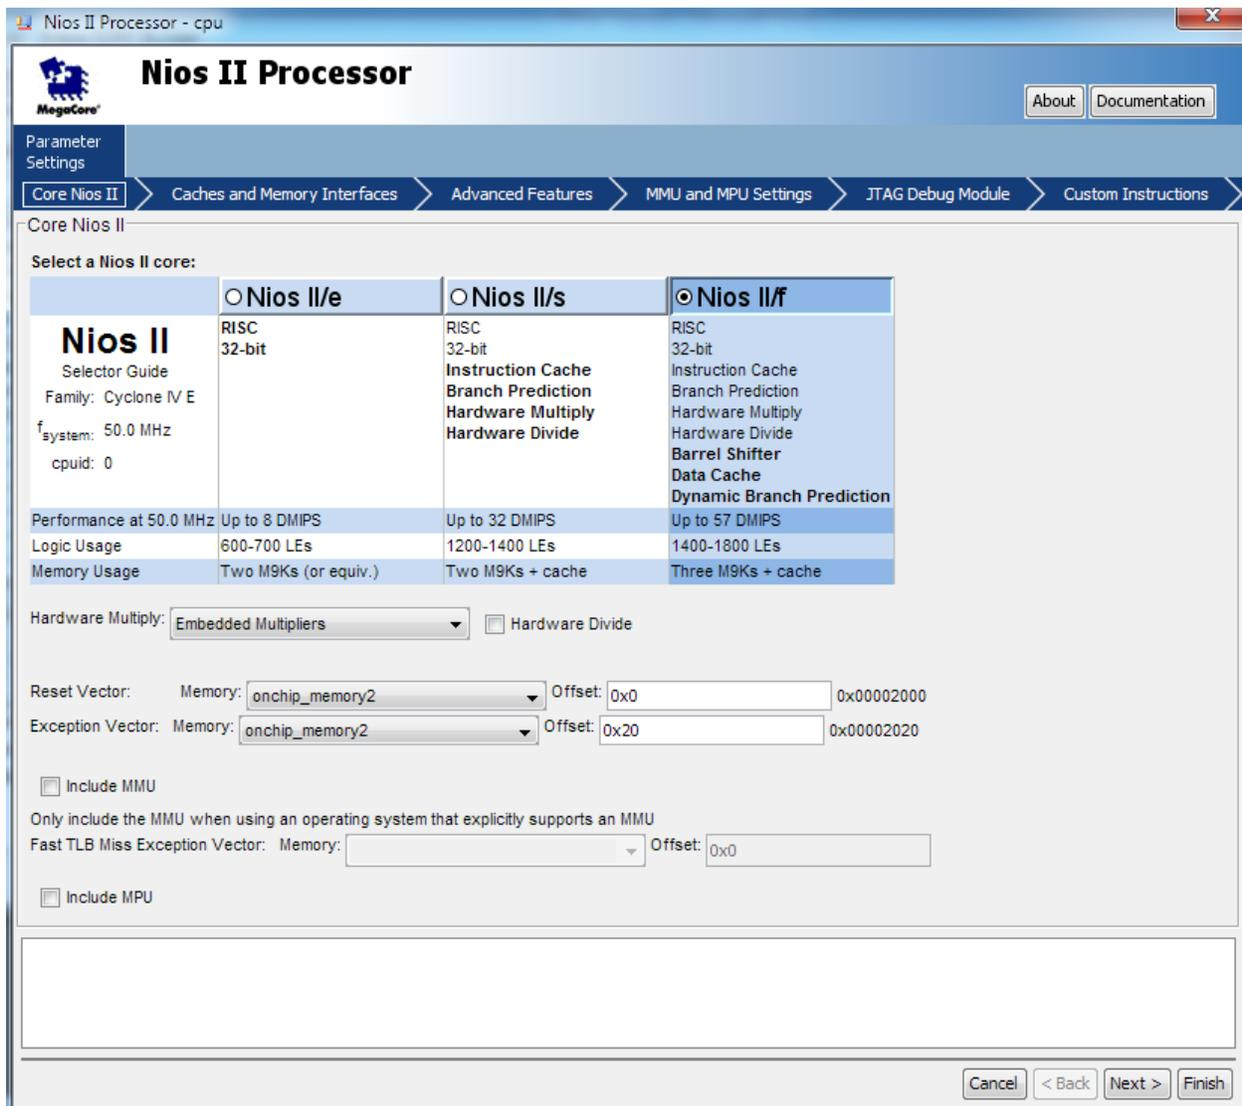
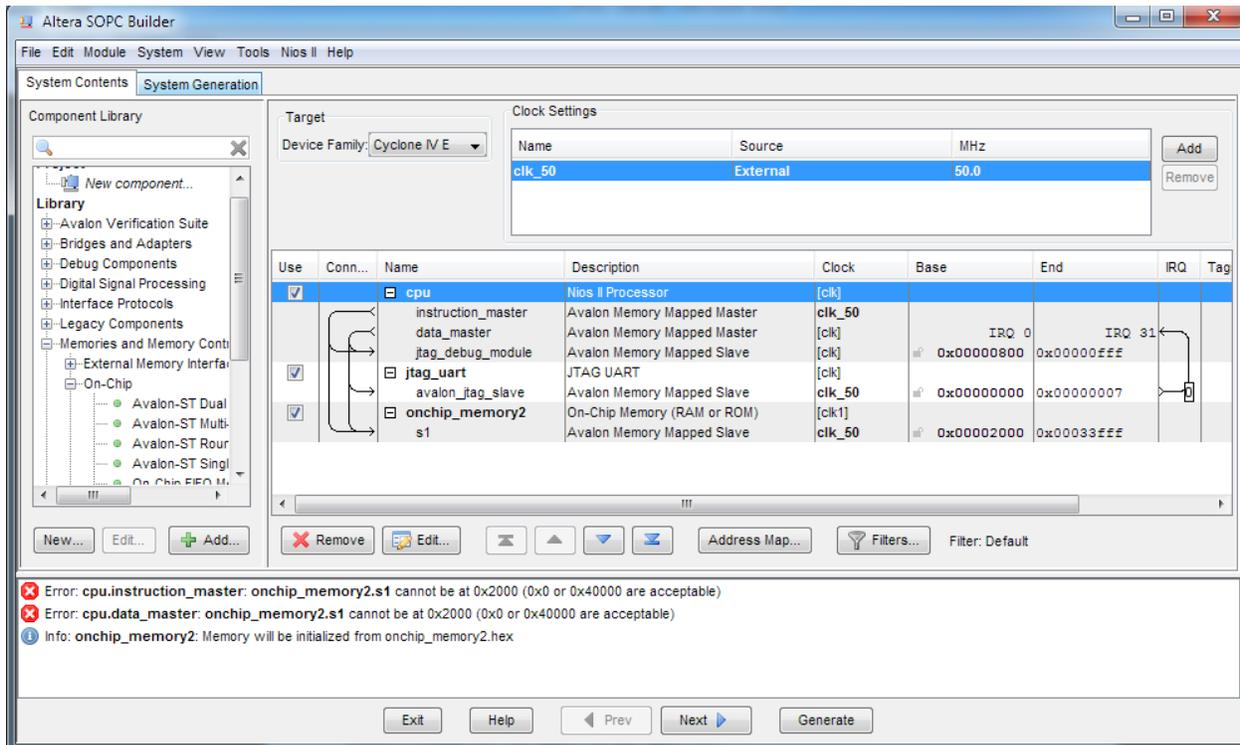

Figure 1-28 Update CPU settings
Figure 1-29 Update CPU settings Completely
18. Click **cpu** in the component list on the right part to edit the component. Update **Reset vector** and **Exception Vector** as shown in Figure 1-28. Then click **Finish** to return to the window as shown Figure 1-29.